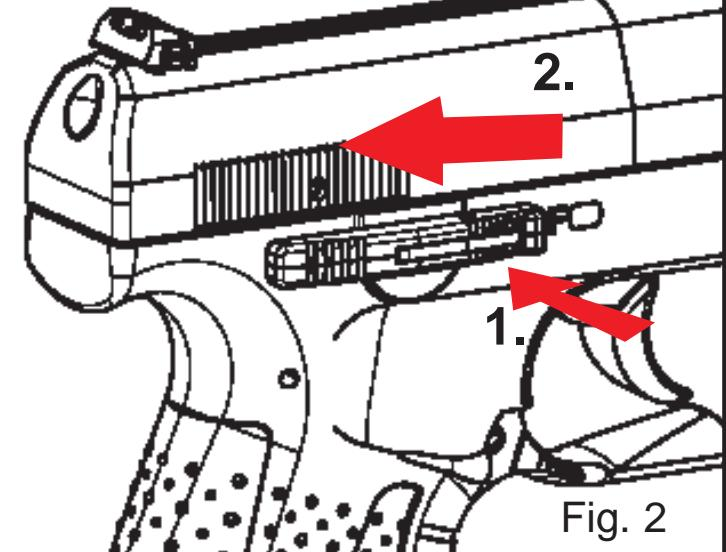

Fig. 2
- Locate the latch on the safety (Fig. 2)